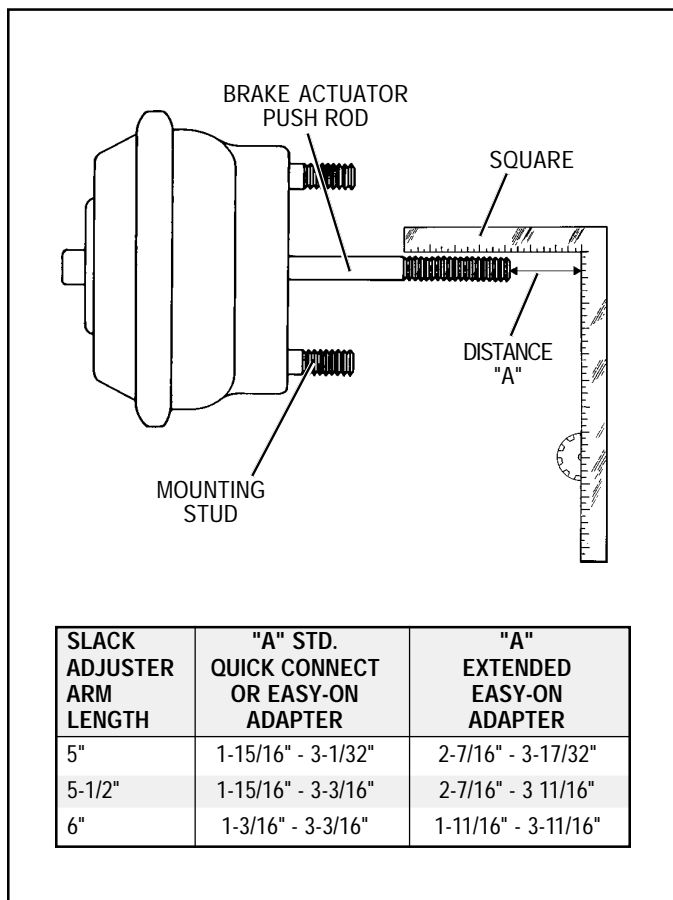

FIGURE 5 - MEASURING THE BRAKE ACTUATOR PUSH ROD
edge of the square and compare it to the values in Figure 5.
- B. If the measurement is less than the minimum shown in Figure 5, the brake actuator push rod must be shortened. If the measurement is greater than the maximum values, the brake actuator push rod may require replacement. The extended adapter, available as a separate service part (5/18-18 pc. no. 297700 and 1/2-20 pc. no. 297701) may avoid the need to replace the brake actuator push rod. The extended adapter is available for the easy-on yoke assembly only.